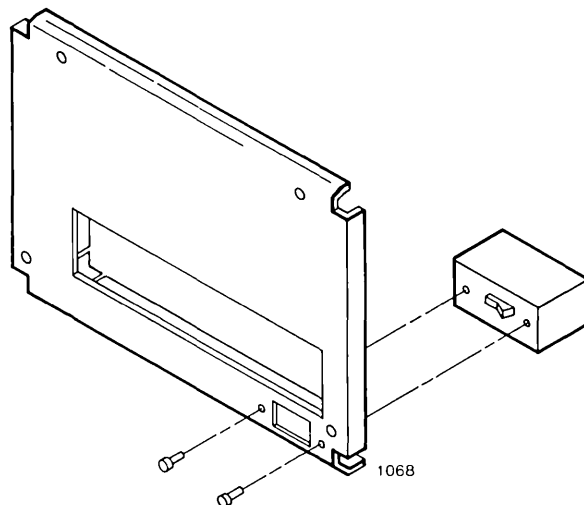

Figure 4-20. Switch Retaining Screws
5. In the lower right front corner of the chassis, remove the two screws holding the power switch to the front of the chassis. Refer to Figure 4-20 for the location of the screws.